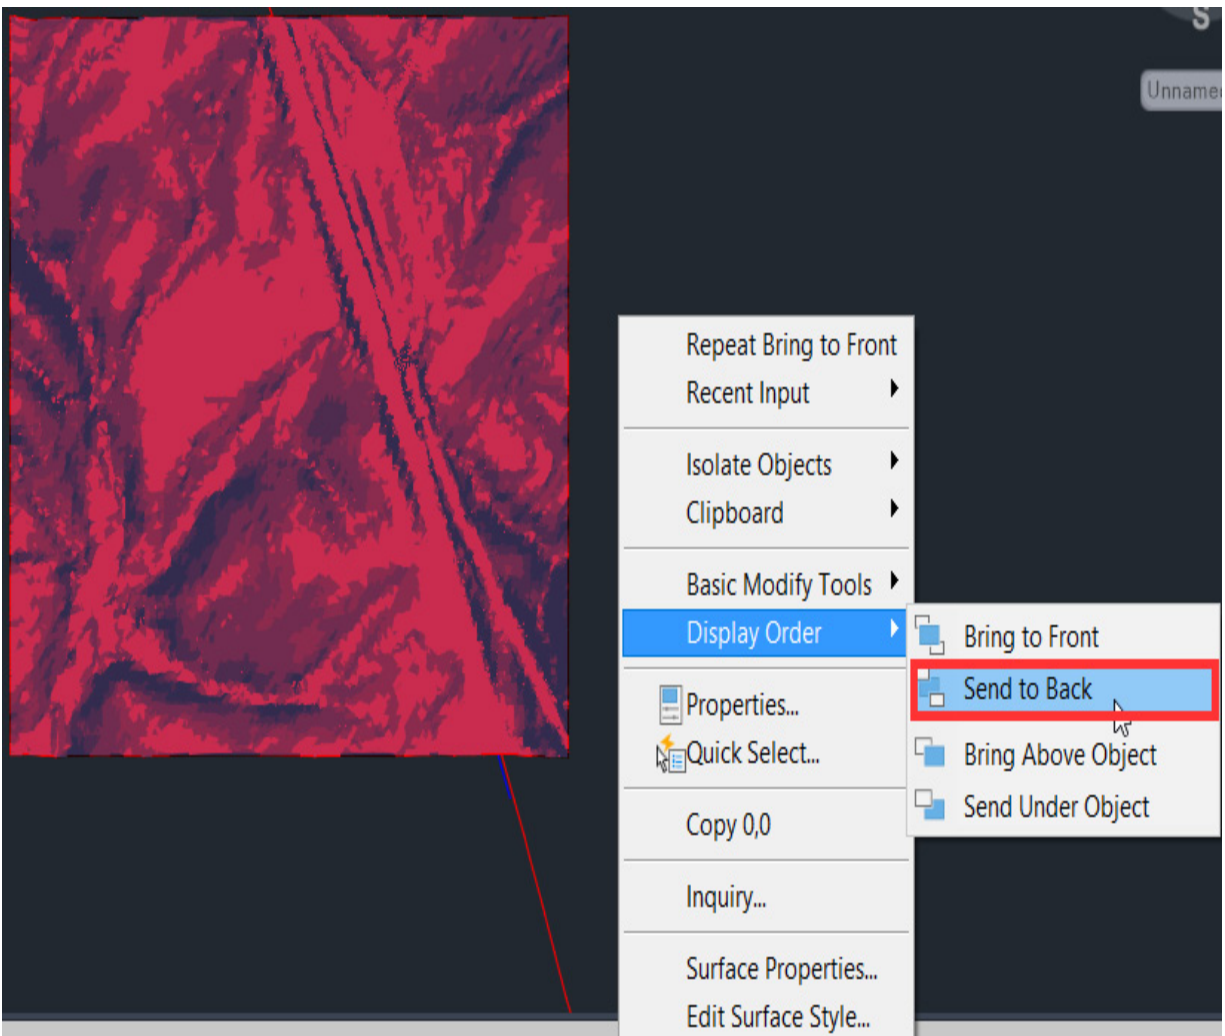

Figure 6.20 – Update Display Order of SRF - Existing Grade – FromSurveyPoints
**Slope Banding (2D)**, then you will need to change the display order of the elements within the file. To do so, simply select the **SRF - Existing Grade - FromSurveyPoints** surface model in model space, right-click, hover your mouse over the **Display Order** option, and finally select the **Send to Back** option, as shown in *Figure 6.20*: